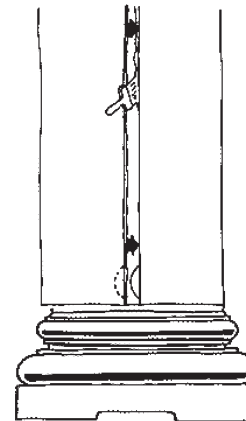

FIGURE 8-5
4. Thoroughly coat all four joining surfaces of the shaft with polyurethane adhesive (Fig. 8-5).